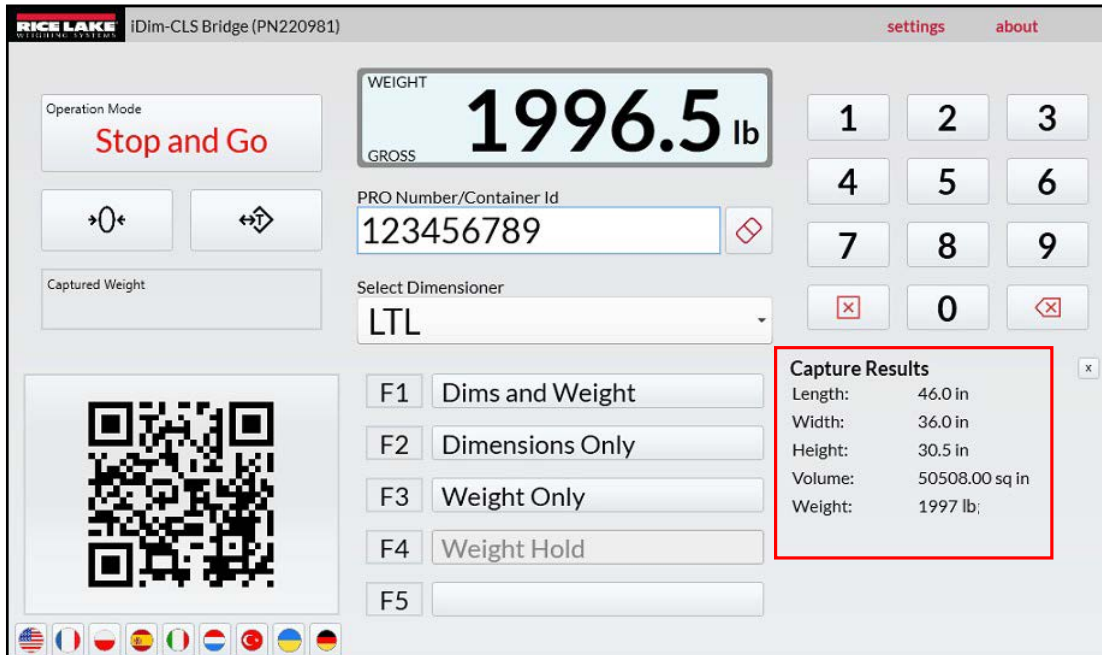

Figure 5-4. Weight Results as Numerical Data
- **As Text:** Shows weight results as numerical data. (see Section Figure 5-4. on page 17)